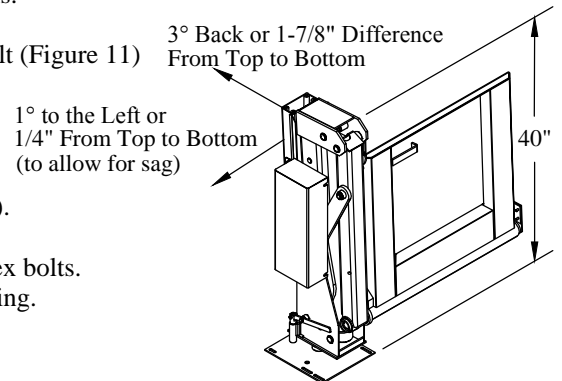
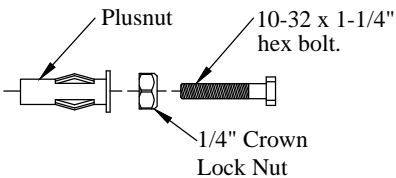

Figure 10: Liftgate properly tipped.
Figure 11: Plusnut Parts.
- 4. Position** the liftgate so it is tipped 3 degrees back and 1 degree to the left (Figure 10).
- 7. Locate** and **Drill** eight (8) 5/16" holes into the rear door header, using the top angle bracket as a guide. Choose eight (8) of the angle bracket holes without obstructions.
- 8. Assemble** the Plusnut with the 1/4" crown lock nut and 10-32 x 1-1/4" hex bolt (Figure 11)